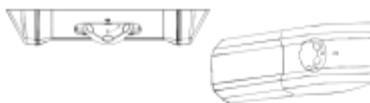

Fig.21
• Rotate the knob to the "0" position (Fig.21)